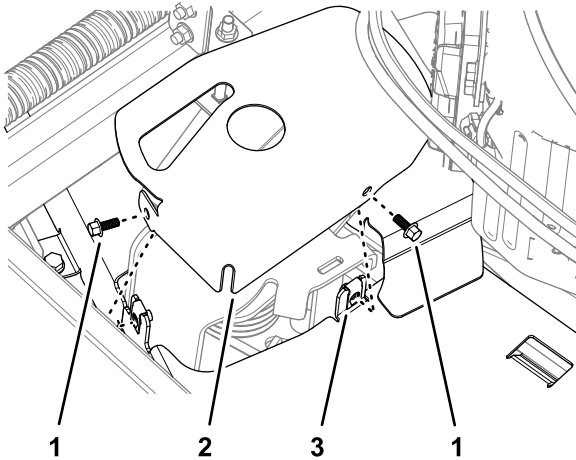

Figure 34
1. Remove the 2 flange-head screws that secure the tensioner cover to the left belt cover, and remove the tensioner cover (Figure 34).